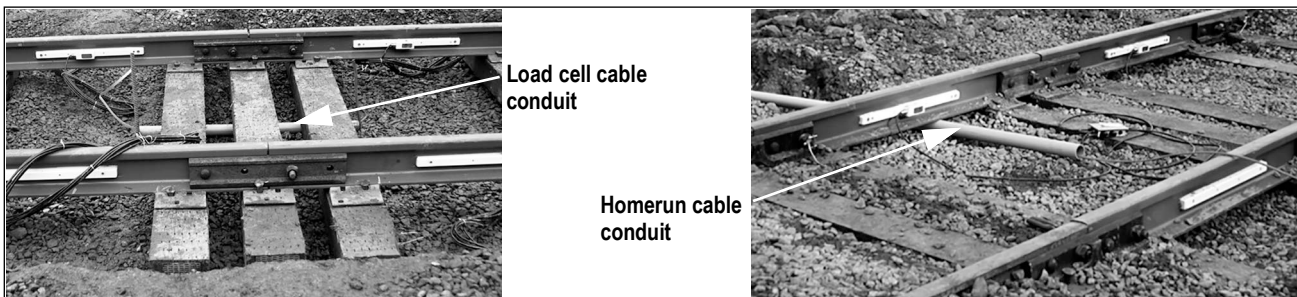

Figure 2-8. Load Cell Cable and Homerun Cable Conduit
2. Measure and mark the four cutting locations (eight cuts for a full draft installation) of track to be replaced. See Figure 2-8 on page 10.